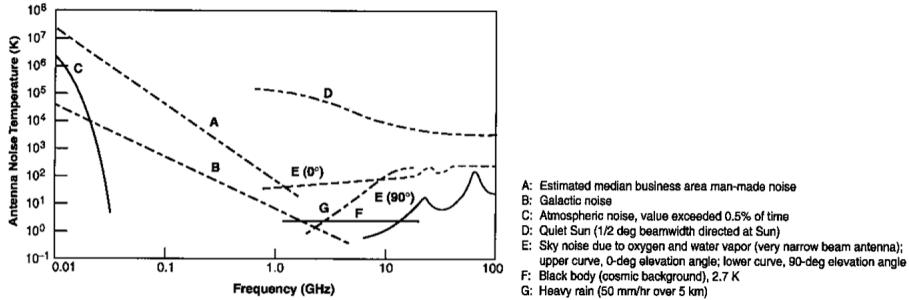

Figure 9.3: Antenna noise temperature.
- The **antenna noise** generates ahead of the antenna aperture, and is therefore caused by sources external to the ground station, e.g. galactic noise, Sun or Earth noise (if Sun or Earth is in the antenna main beam or side lobe⁴) The intensities of the noises are depicted in figure 9.3, where line number D